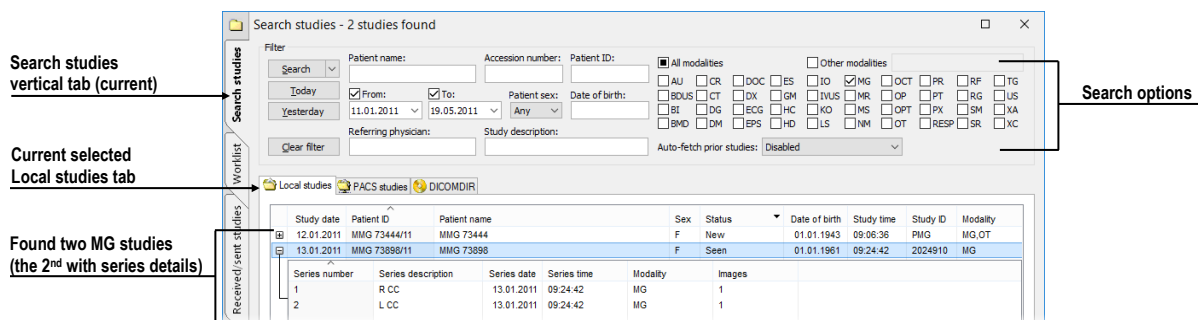

Figure 434 – Opened patient study from the Local studies
- Finding and opening a required study stored in the local studies (see Figure 434) by taking the following steps: